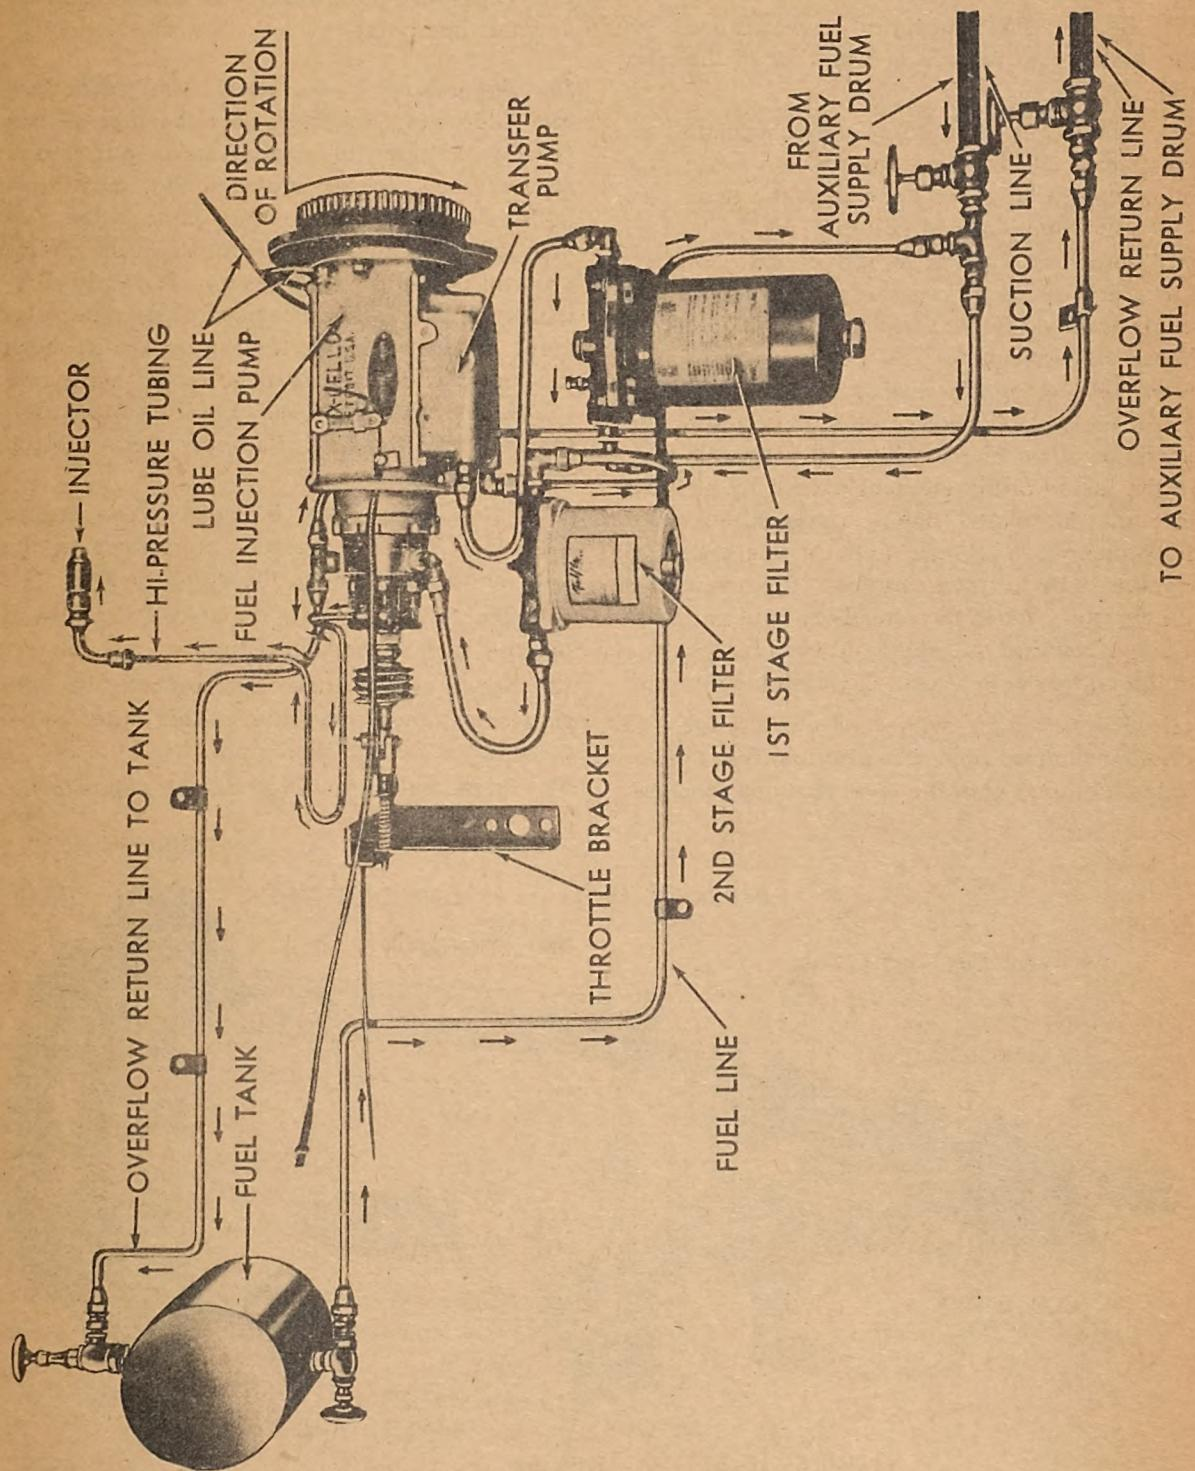

Fig. 256. Fuel System Accessories
**77. Fuel System.** The fuel system includes the fuel injection system, secondary fuel filter, primary fuel filter, fuel tank, and the fuel lines and tubing. (See paragraph 10.) Dirt and water are the two worst factors contributing to fuel system troubles. It is important, therefore, that care be exercised when handling and storing fuel. **USE ONLY CLEAN CONTAINERS.** It is also important that only fuel be used that conforms with the fuel oil specifications given in paragraph 28. Figure 256 is an illustration of the fuel system, tracing the flow of the fuel from the fuel tanks to the injectors.
**79. Secondary Fuel Filter.** The secondary fuel filter filters the fuel after the fuel oil has passed through the fuel transfer pump and removes any foreign material that may have gotten by the primary stage filter. (See Figure 256.) Because of the construction of this unit, no overhaul is necessary. The only servicing will be the replacement of the filter element. Before replacing the filter element, wash the outside of the filter housing, seats and tubes before it is disassembled, to avoid getting dirt into the line. Use only clean fuel oil for washing.
c. *Hydraulic Unit.* From the fuel transfer pump, the fuel, under low pressure, passes through a secondary, final-type filter (see Figure 256) and then enters the hydraulic unit at the inlet connection (8). This connection and associated passage supply fuel to a recess in the hydraulic unit, which is made in part by a spool-like reduction in the diameter at the center of the rotary valve or rotor (5). The ends of the rotor are closely fitted in the central rotary valve bores and prevent the escape of the fuel endwise along the valve. In the spool-like reduction of the rotor, forming the recess, which is a small fuel reservoir, there is a triangular shaped section, or "land", of the same diameter as the ends of the rotor, and is, therefore, a close pressure-tight fit in the valve bores.